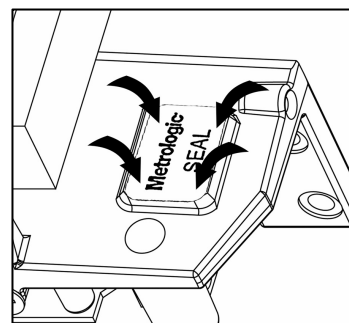

Figure 56.
3. With very light pressure, push down on the adhesive calibration security seal label to ensure a firm adhesion is created (see *Figure 56*).